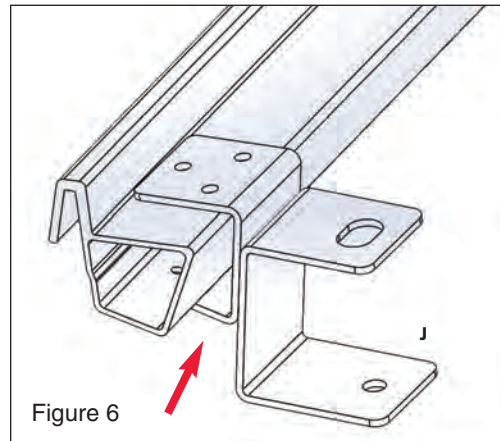

Figure 6
Then, slide a Left Rear Door Surround Bracket (J) to the Left Door Surround Assembly. (See FIG 6) Repeat this procedure for the Right Side.